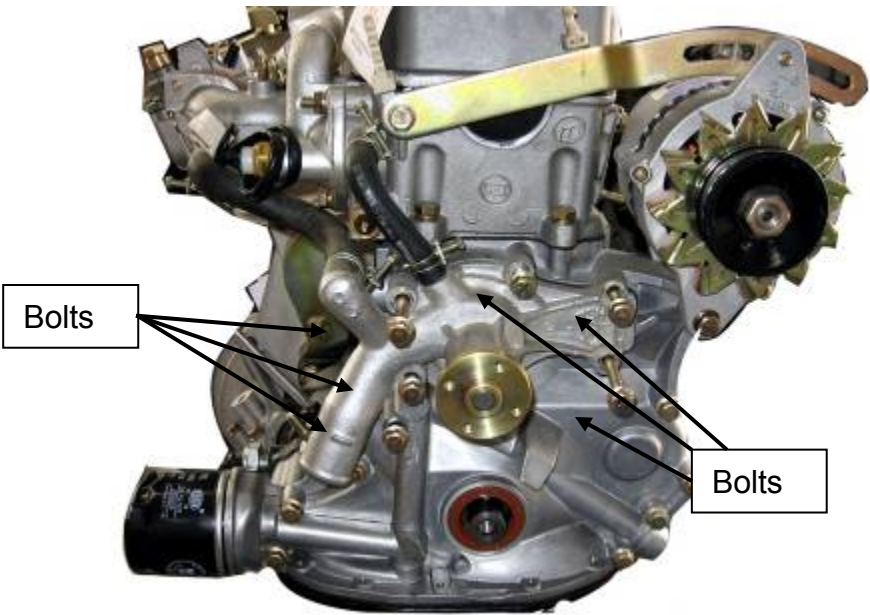

Figure 54
2. Loosen the 6 bolts shown as the Figure 54.